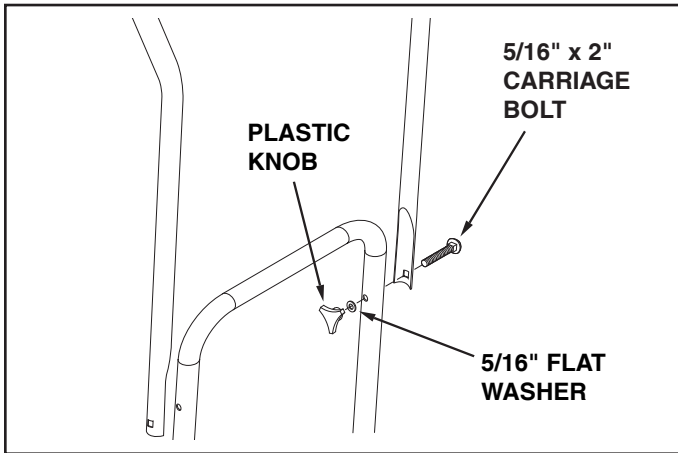

FIGURE 3
- Assemble the drawbar bracket to the base assembly using four 5/16" x 1" hex bolts and 5/16" nylock nuts. See figure 3. Do not tighten yet.
STEP 3: (SEE FIGURE 3)